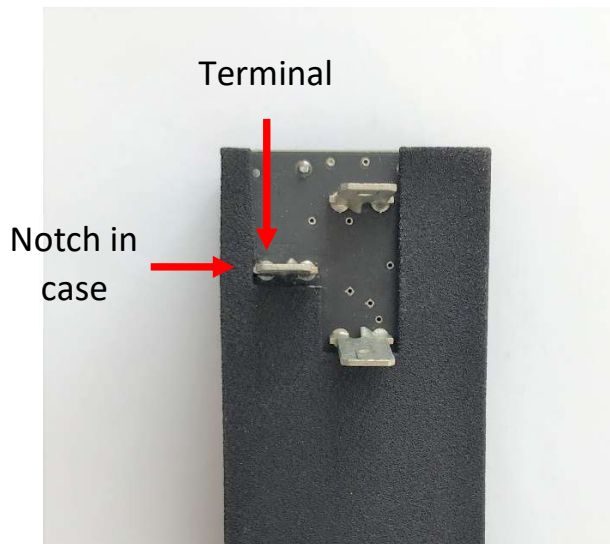

Figure 10 Notch engages terminal
- Turn unit over and note how the notch in the case engages the terminal (Figure 10).